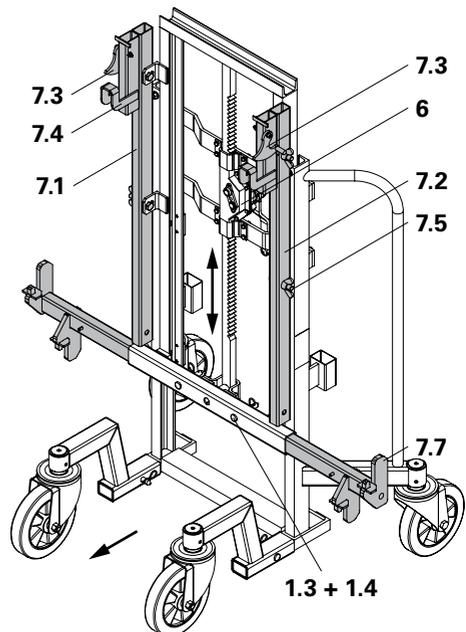

Fig. 10
Assemble Connectors PERI UP (7.1, 7.2) so that the safety pawls (7.3) face outwards in each case. (Fig. 10)
3. Pre-adjust Connector height with the Winch (6). (Fig. 10)
Attach Telescopic Tube PERI UP on the right and left with bolts (1.3) and cotter pins (1.4). The support hooks (7.7) of the telescopic tubes are pointing in the direction of travel. (Fig. 10)